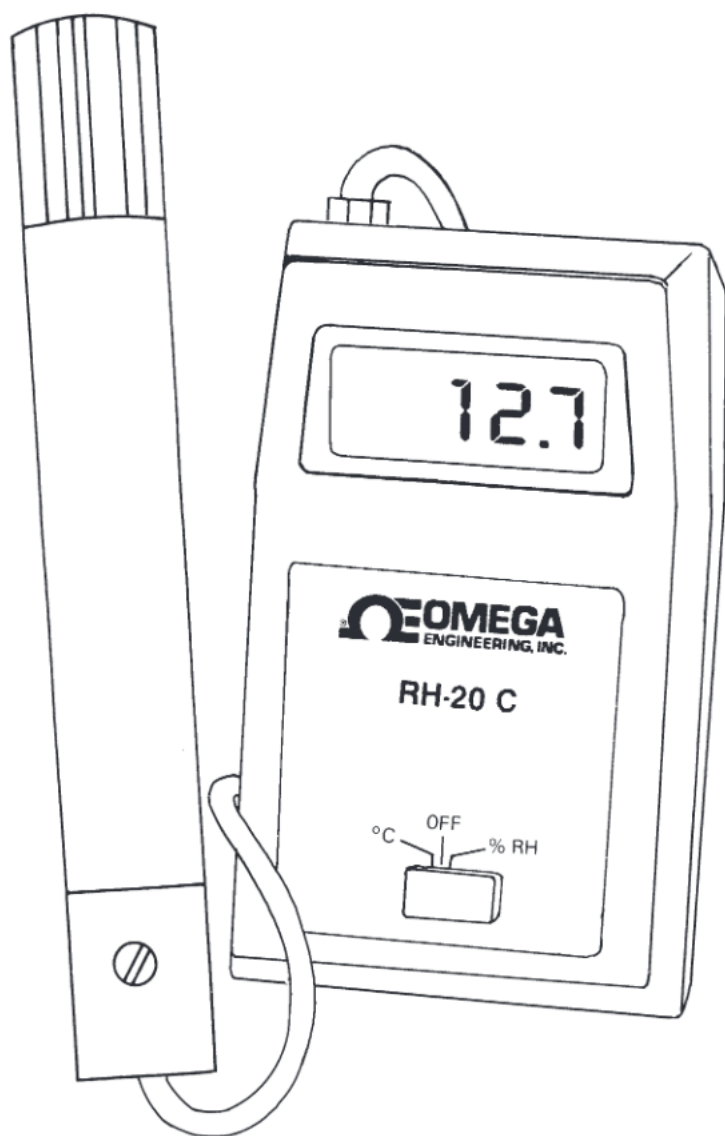

Figure 1 RH-20C
1.3 RH-20 FEATURES (see Figure 1)